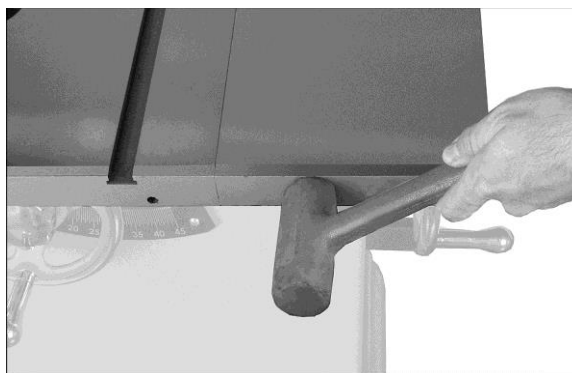

Figure 5
3. The front edge of extension wings must be flush with front edge of saw table. If needed, tap front edge of wing with a rubber mallet to make flush. See Figure 5.